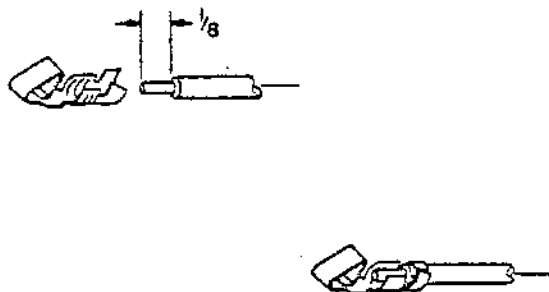

Figure 5-10. Pin Installation
5. Referring to Figure 5-10, install a connector pin to each of the four wires on one end of each cable by crimping the wire into place and soldering the end to the pin itself.